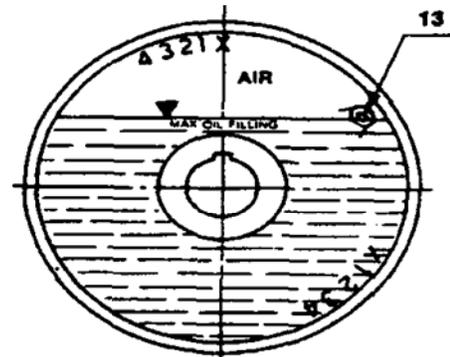

Fig. 5
1. With the fluid coupling mounted in a horizontal plane, turn the coupling so the X mark which is cast into the housing is at the top (maximum filling) which will ensure the filler/level plug item 13, is in the correct angular position as shown in Fig. 5.